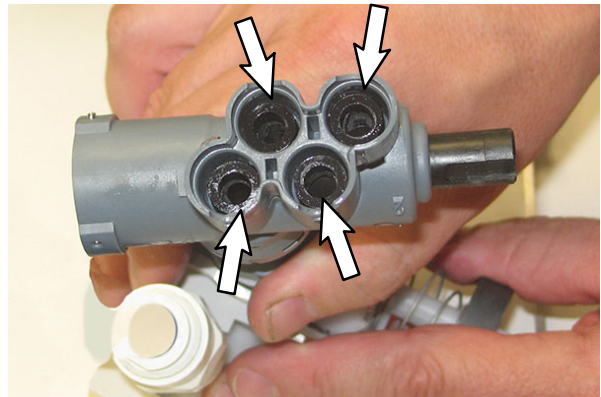

FIG. 48
10. If necessary, place any spacers that may have fallen from the valve assembly back into the valve assembly. (Fig. 48)